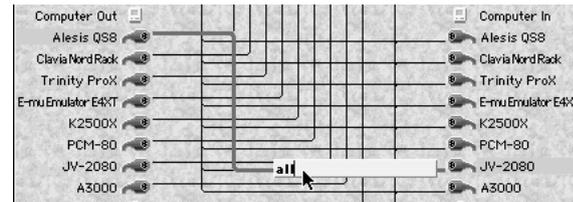

Figure 6-11: Setting the MIDI channels when making a connection.
- 2 When you release the mouse, the connection appears in the window as shown in Figure 6-11, along with an activated pop-up box on top of the connection with the word *all* in it.